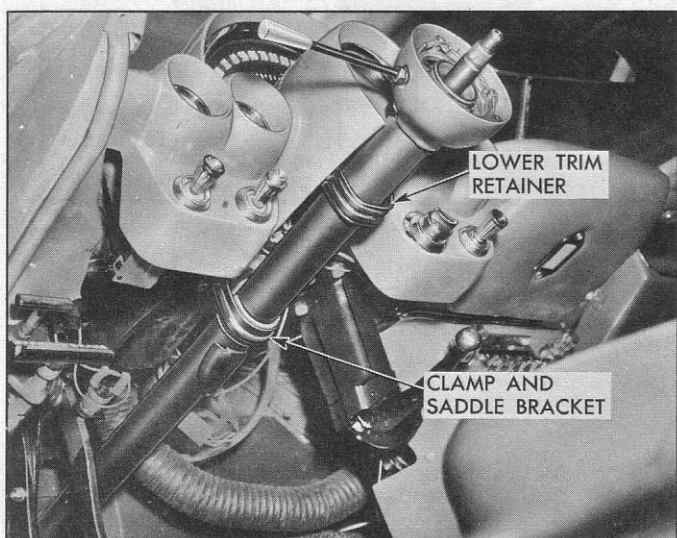

Fig. 9—Mast Jacket Assembly
reinforcement. Carefully note the number and position of shims used at this point (fig. 9).
4. Install mast jacket to instrument cluster reinforcement clamp and saddle bracket, torquing retaining bolts to 70-85 in. lbs. Make sure shims are replaced to their original position (fig. 9).